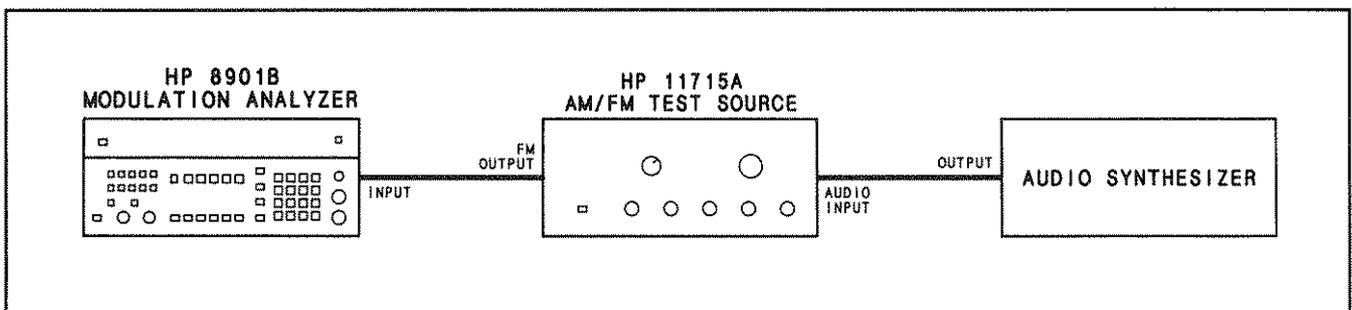

Figure 5-4. FM Flatness Adjustment Test Setup
1. Connect the equipment as shown in Figure 5-4 using a short cable, approximately 0.3 meters (1 foot), to connect the audio synthesizer. (The AM/FM test source can be connected either to a sensor module or directly to the Modulation Analyzer's INPUT.)